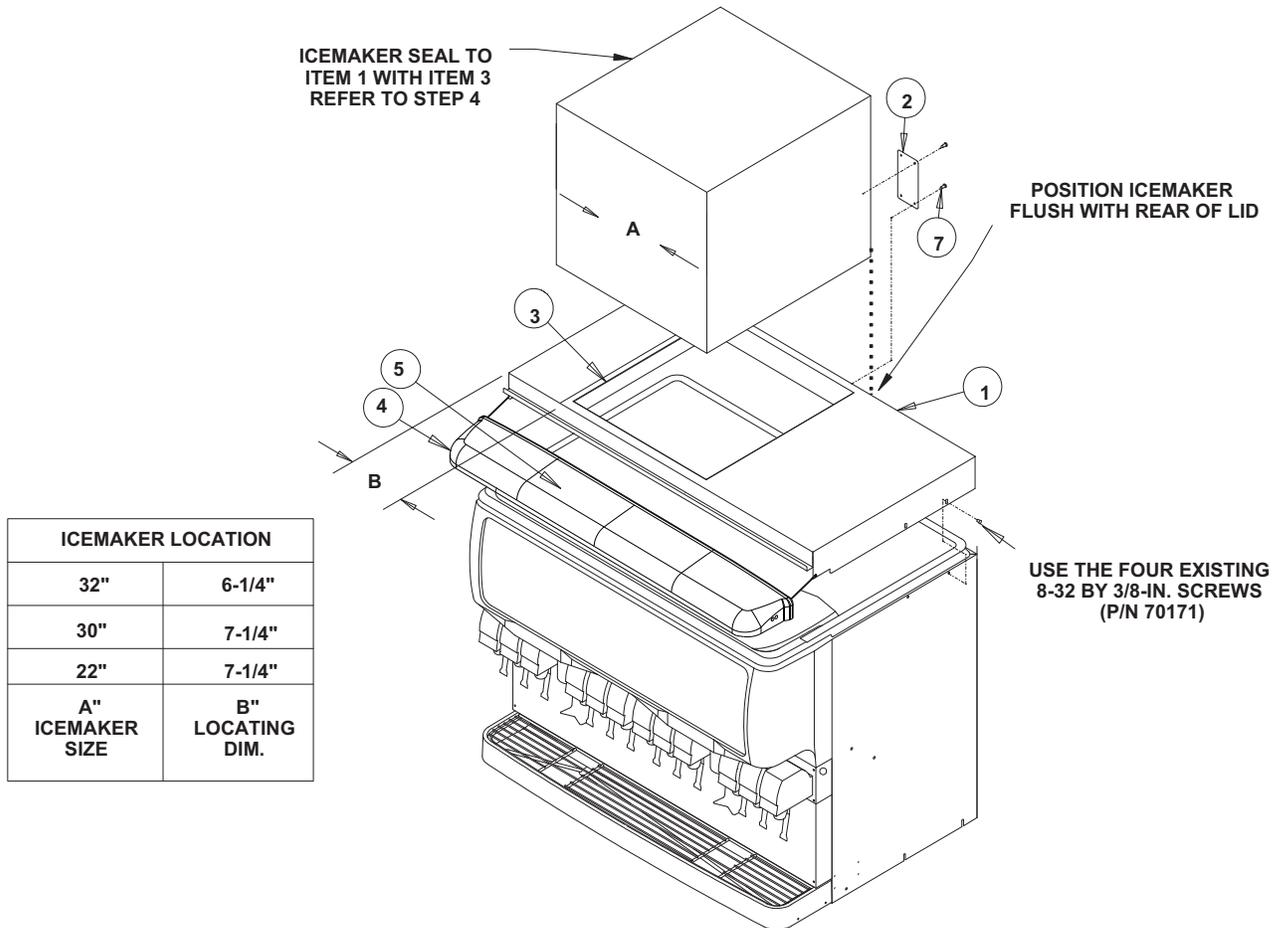

Figure 1. Dispenser
4. Seal the Icemaker to the top of the dispenser after determining the correct location for the ice maker (see Figure 1).
7. Locate the cleaning caution label (item 5) on the manual ice fill cover (item 4) as shown in Figure 1. Place the manual fill cover in position over the flange on the lid assembly and the front access hopper opening.